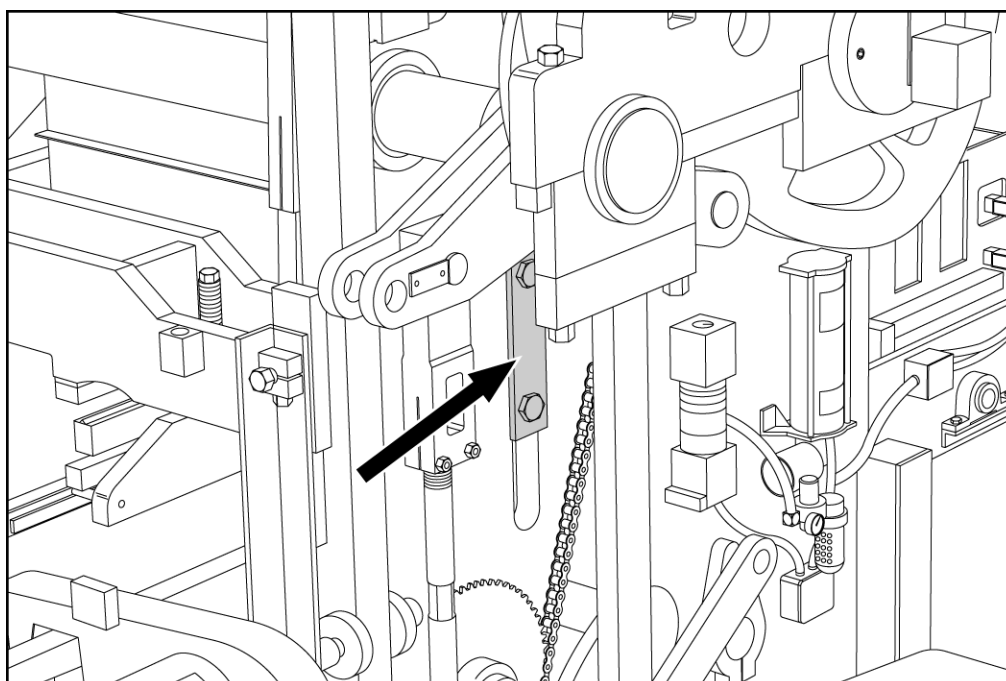

Figure 4.5 LOOSEN "T" CLAMPS ON BOTH SIDES
- a. Loosen the "T" clamps on each side of machine that secure machine side plate to mold throat plate. (Figure 4.5)